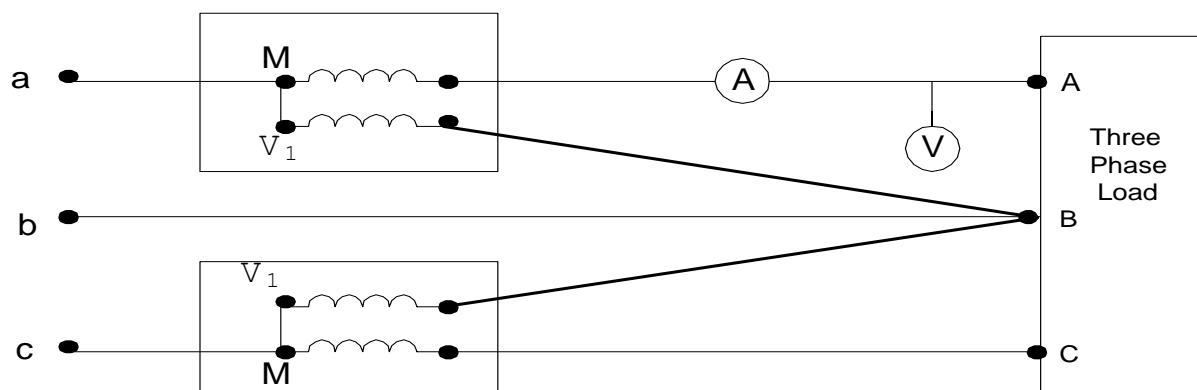

Fig.1: Two Wattmeter Connection
1. Connect the circuit as shown in fig 1. Connect the 3Φ load in Y.